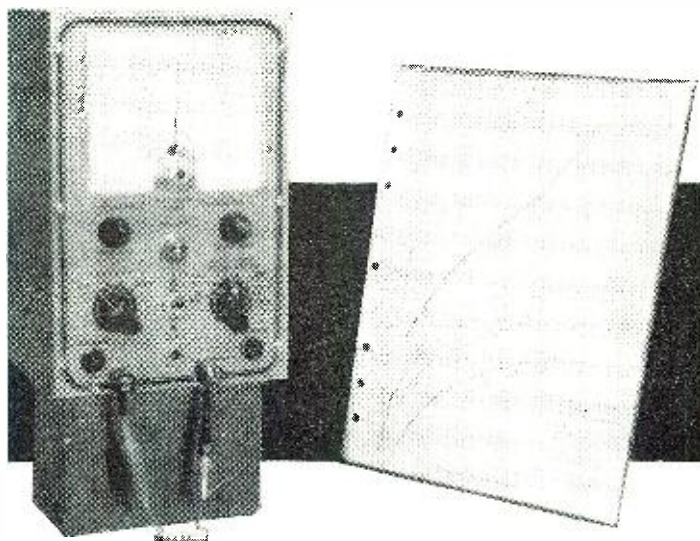

Fig. 1. A v.t.v.m. modified to measure capacitors, as explained in the text, with its calibration chart for translating voltage readings to capacities.
The modification shown in Fig. 2 applies to a *Heathkit* v.t.v.m. Model V-4A. A similar method of obtaining an a.c. voltage on the front panel could apply for other makes of v.t.v.m.'s. A 56,000-ohm, half-watt resistor protects the power supply of the v.t.v.m. against inadvertent shorts. The binding posts were installed using mica insulation in order to prevent stray leakage currents from upsetting the readings. After installation of these components, the instrument is replaced in its case, and all test leads removed. Fig. 1 shows the panel arrangement.
2. Short leads, 3 inches or less, soldered to insulated alligator clips should be attached to the binding posts as shown in Fig. 1.